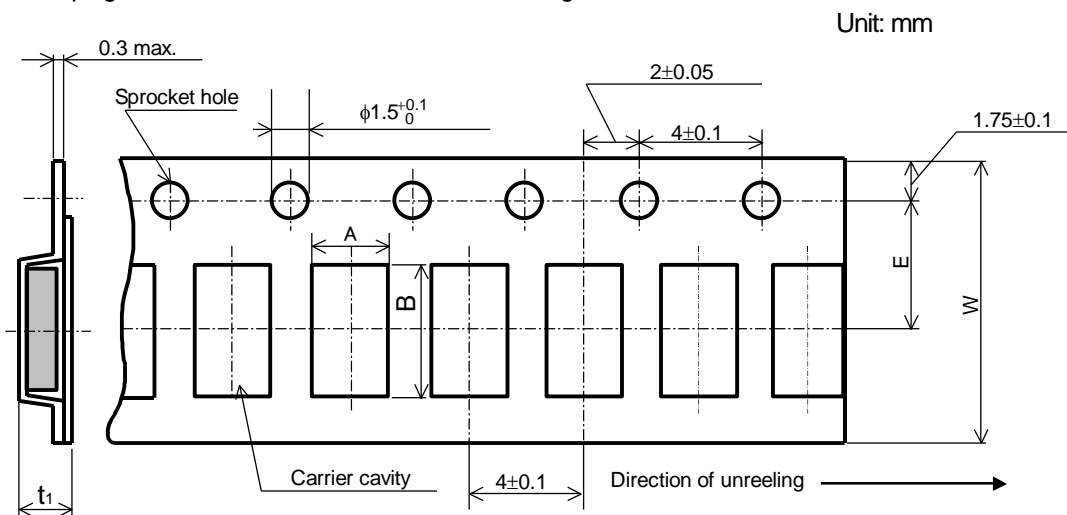

Figure-4
8.2.2 Embossed taping dimensions shall be in accordance with Figure-4 and Table-6.